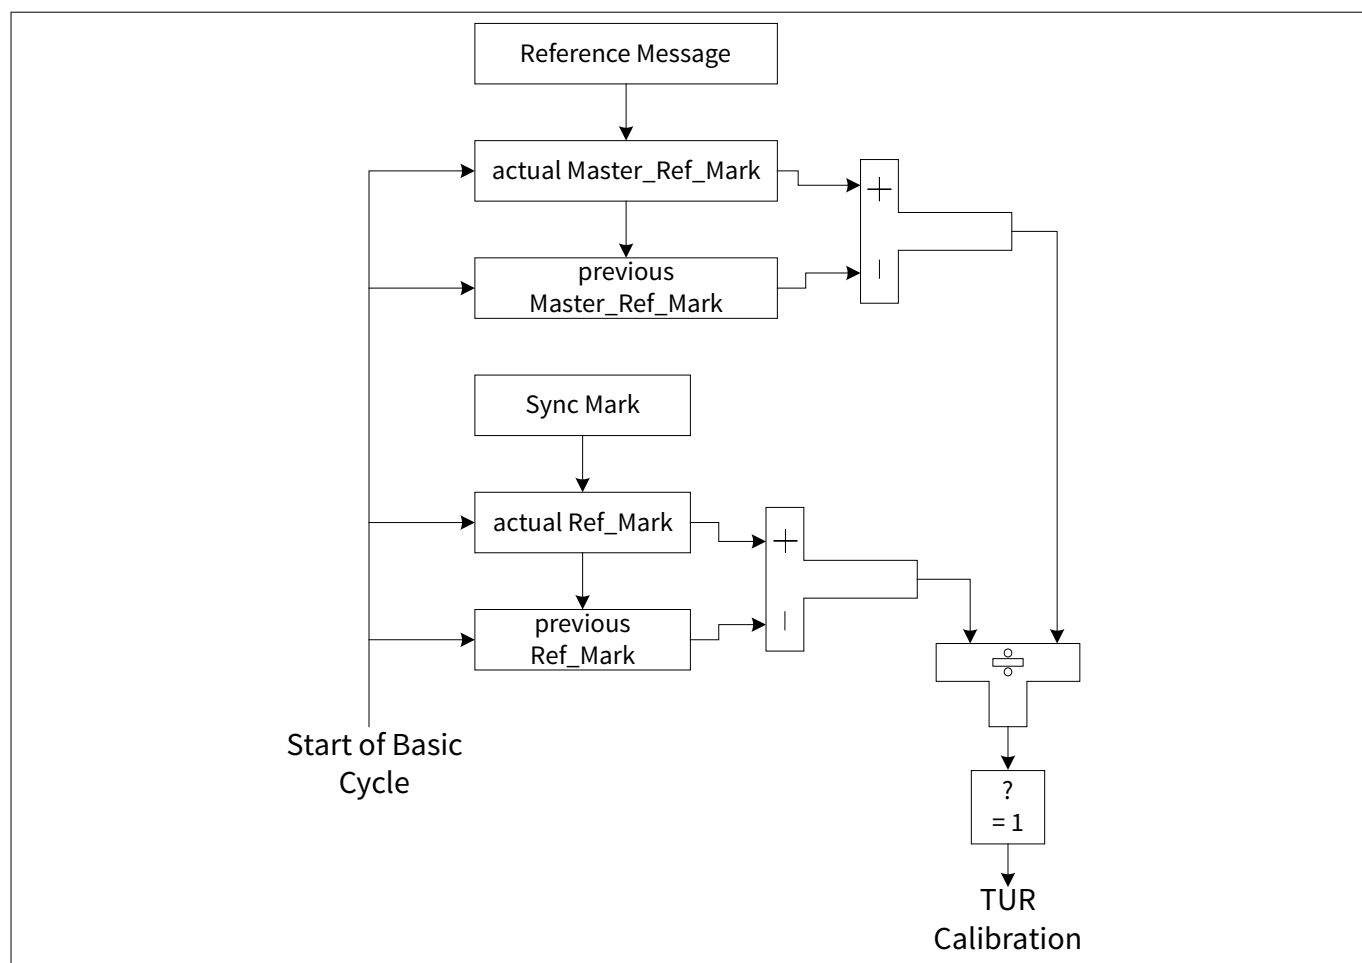

Figure 128 TTCAN level 0 and level 2 drift compensation
Figure 128 illustrates how in TTCAN Level 0 and Level 2 the receiving node compensates the drift between its own local clock and the time master's clock by comparing the length of a basic cycle in local time and in global time. If there is a difference between the two values, and the Disc_Bit in the reference message is not set, a new value for CANFDx_CHy_TURNA.NAV is calculated. If the synchronization deviation (SD) = $|NC - CANFDx\_CHy\_TURNA.NAV| \leq SDL$, the new value for CANFDx_CHy_TURNA.NAV takes effect. Otherwise, the automatic drift compensation is suspended.